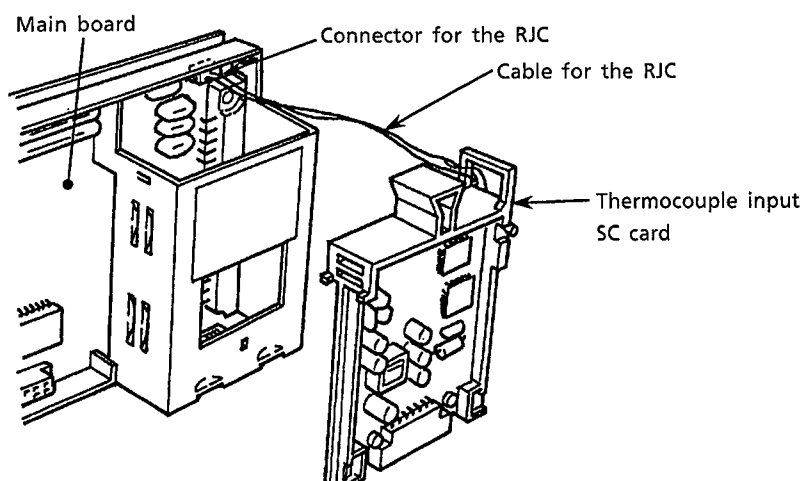

Figure 11.7 Detaching the Connector for the RJC
- ③ For the thermocouple input SC card, disconnect the connector for the RJC (see Figure 11.7).
- ① Along the guides on the left and right, mount a new SC card by performing the reverse of the steps for “How to Detach” above.
- ② When installing the thermocouple input SC card, bind and push in the cable for RJC.